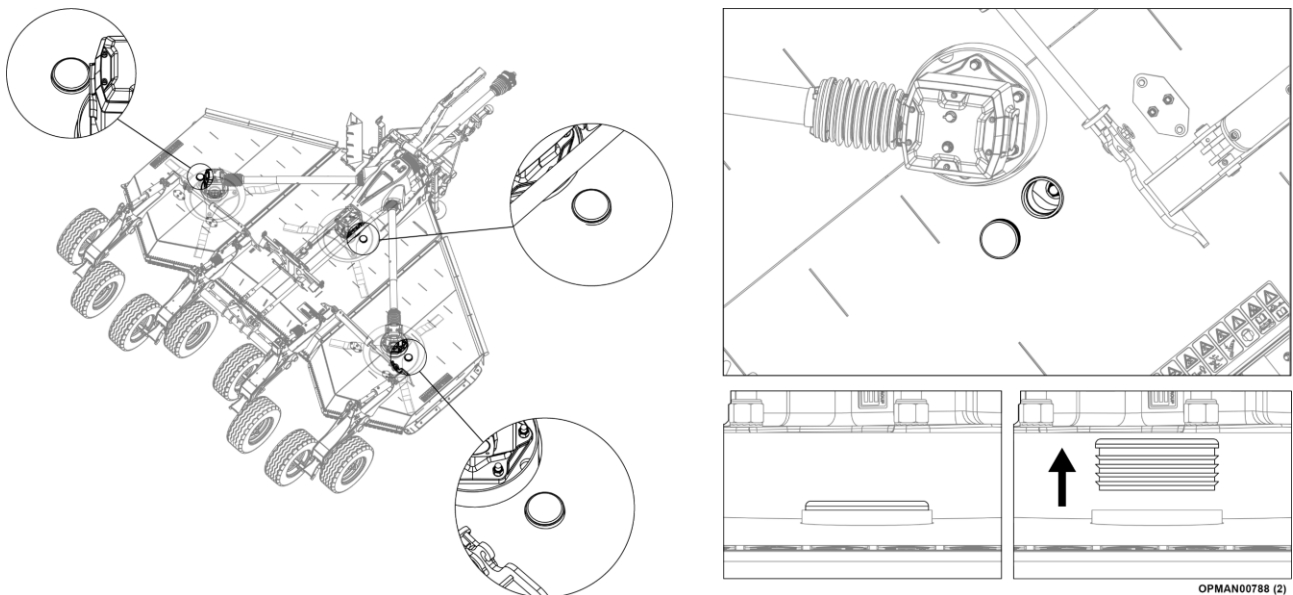

Figure 5.51
5.5.7.1 Begin by removing the blade bolt service cap found on the required deck of the machine and rotate the blade carrier to line the nut up with the inspection hole; see Figure 5.51.